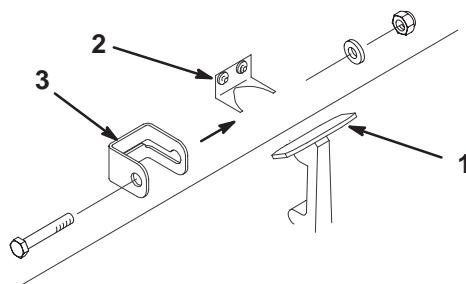

Figure 2
1. Unhook the hood latch from the hood latch bracket (Fig. 2).
2. Slide the hood lock bracket onto the latch (Fig. 2).
3. Hook the latch onto the hood latch bracket (Fig. 2).
4. Insert a bolt (1/4 x 1-1/2 in.) through the hood lock bracket and secure it with a flat washer and locknut (Fig. 2).